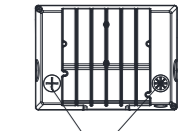

figure 9.4
Step 2: After adjusting the required control function(figure 9.3), tighten the metal plug and the plastic plug clockwise.(figure 9.4)